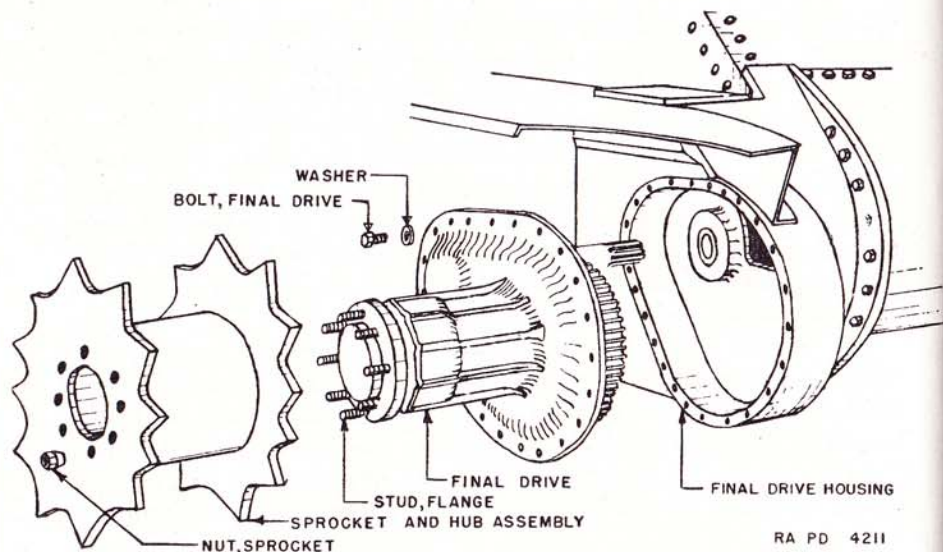
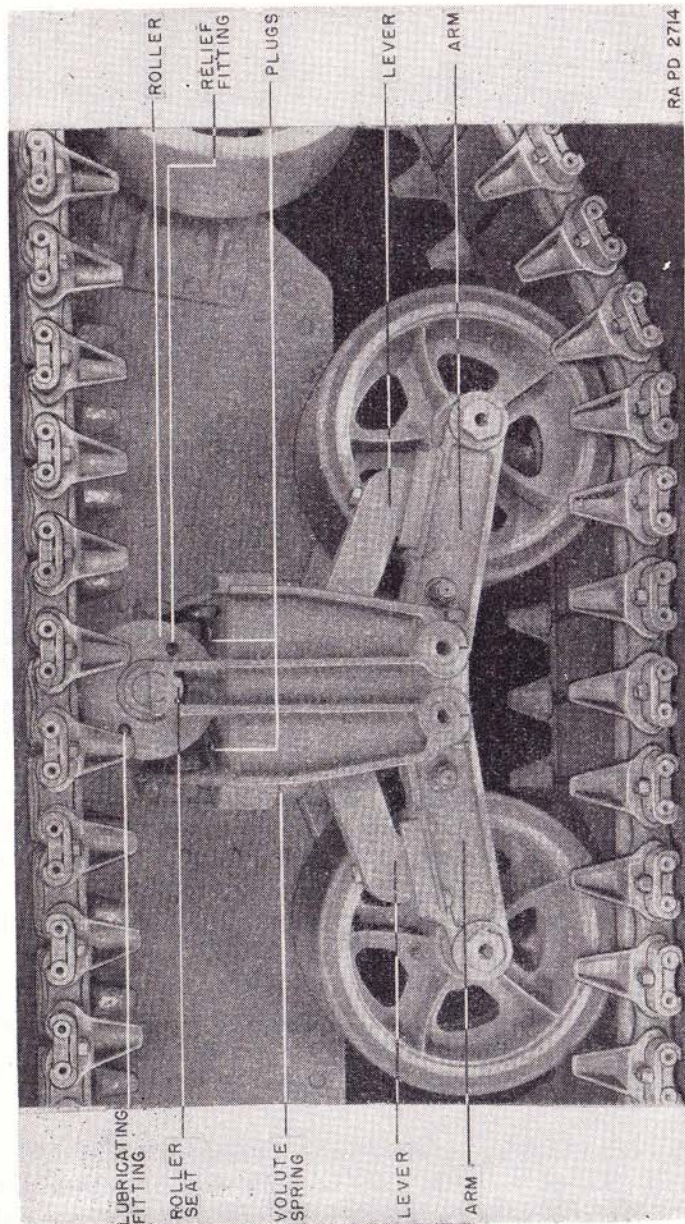

FIGURE 47.—Final drive and brake housing.
FIGURE 48.—Bogie wheels and supporting roller.
**93. Removal of final drive unit** (see fig. 47).—*a.* Slacken and disconnect the track under the drive sprockets.
**94. Description and operation** (fig. 48).—Six two-wheeled rubber-tired bogies or suspensions, bolted to the hull, support the vehicle on springs. The tracks are driven by sprockets on the front of the tank. Two adjustable idlers at the rear end of the hull are provided to maintain constant tension on the tracks. The weight of the upper portion of the track is carried by steel track-supporting rollers on the top of the suspension bracket.
**95. Drive sprockets** (fig. 47).—*a. Description.*—Hub assemblies are formed by bolting two sprockets to a hub, which in turn is bolted to the flange end of the final drive shaft. These sprockets and hub assemblies are interchangeable as units, and should be transposed between the right and left final drive shafts when the teeth have been appreciably worn.
*b. To replace the hub assembly* (see fig. 47).—(1) Slacken and disconnect the track below the sprocket.
- (2) Remove the eight hub retaining nuts.
- (3) Remove the hub assembly.
- (4) To replace the hub assembly, reverse procedure. Connect the track and adjust tension.
**96. Bogies** (fig. 48).—*a. Description and operation.*—The bogies are the supporting and conveying units and are sometimes called trucks or suspensions. The movement is transferred from the wheels to the arms and levers and is absorbed by springs. On top of each bogie assembly is a single steel roller to support and carry the upper portion of the track. The roller assemblies are bolted in seats on top of the bogie brackets.